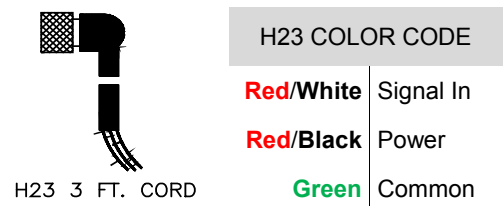

Figure 2
3. If another source of transducer is used, H23 cable must be ordered to facilitate connection of that source to the GX2. (Figure 2)
2. With the other lead, measure and record the resistance from each test point shown in figure 2. While measuring, adjust the potentiometer to the desired setting. Repeat for all potentiometers.